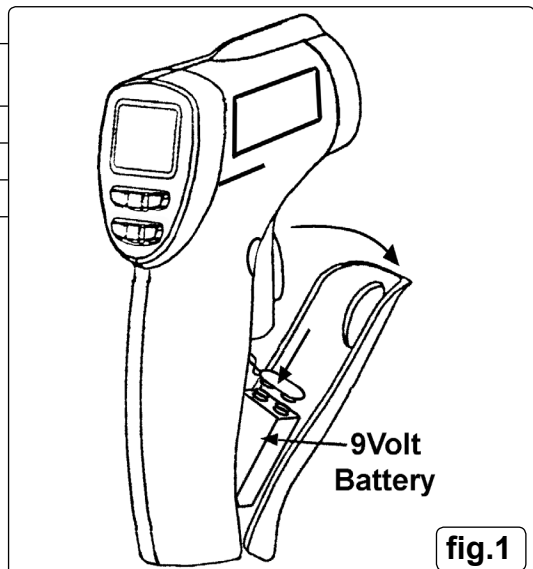

fig.1
3.1. Installing/Changing Battery (fig.1)